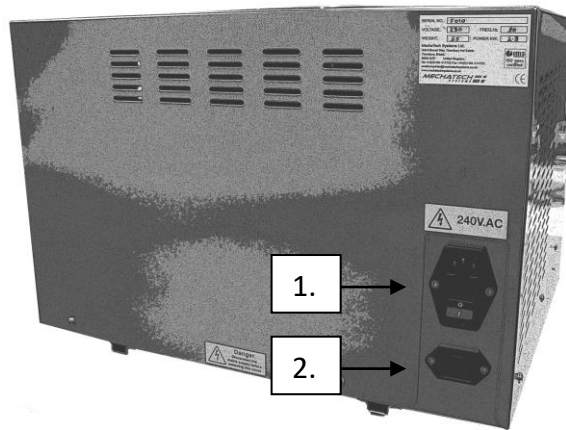
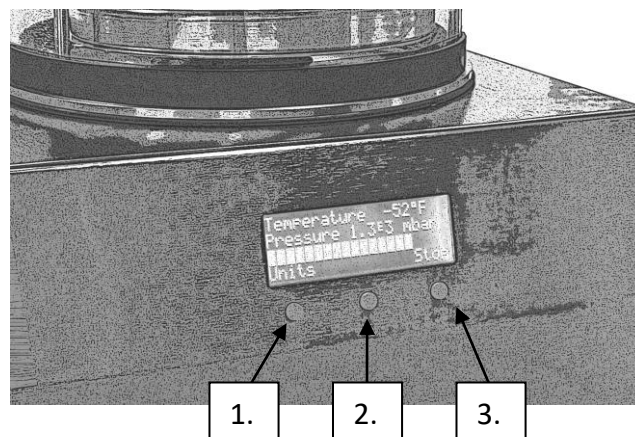

Figure 2 – LyoDry Compact Rear connections.
Figure 3 – LyoDry Compact Control Panel.
2. Ensure that the main switch (item 1, figure 2) is on the '0' (off) position.
5. The LyoDry Compact is supplied with a 1.5 metre length of 3-core electrical supply cable. Connect the cable to the vacuum pump and the LyoDry Compact pump power outlet on the rear of the LyoDry Compact (item 2, figure 2).
1. Switch on the electrical supply and then turn the main switch (Figure 2) to the '1' (on) position.
2. Switch the pump on by pressing the 'Pump On' button (item 2, Figure 3) if the pump is electrically connected to the LyoDry Compact vacuum pump power outlet (Figure 2). 'RUNNING...' is displayed.
2. Switch the vacuum pump off by pressing the 'Pump off' button (item 2, Figure 3) if the pump is electrically connected to the LyoDry Compact vacuum pump power outlet (Figure 2). If the vacuum pump is connected to a separate supply, switch off the pump according to the manufacturer's instructions.